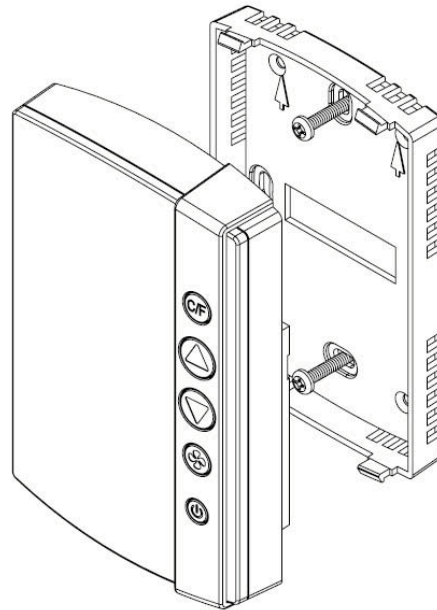

Figure 32
- The mounting bracket is attached using two screws and the thermostat can then be snapped into place on the mounting bracket as shown in Figure 32.